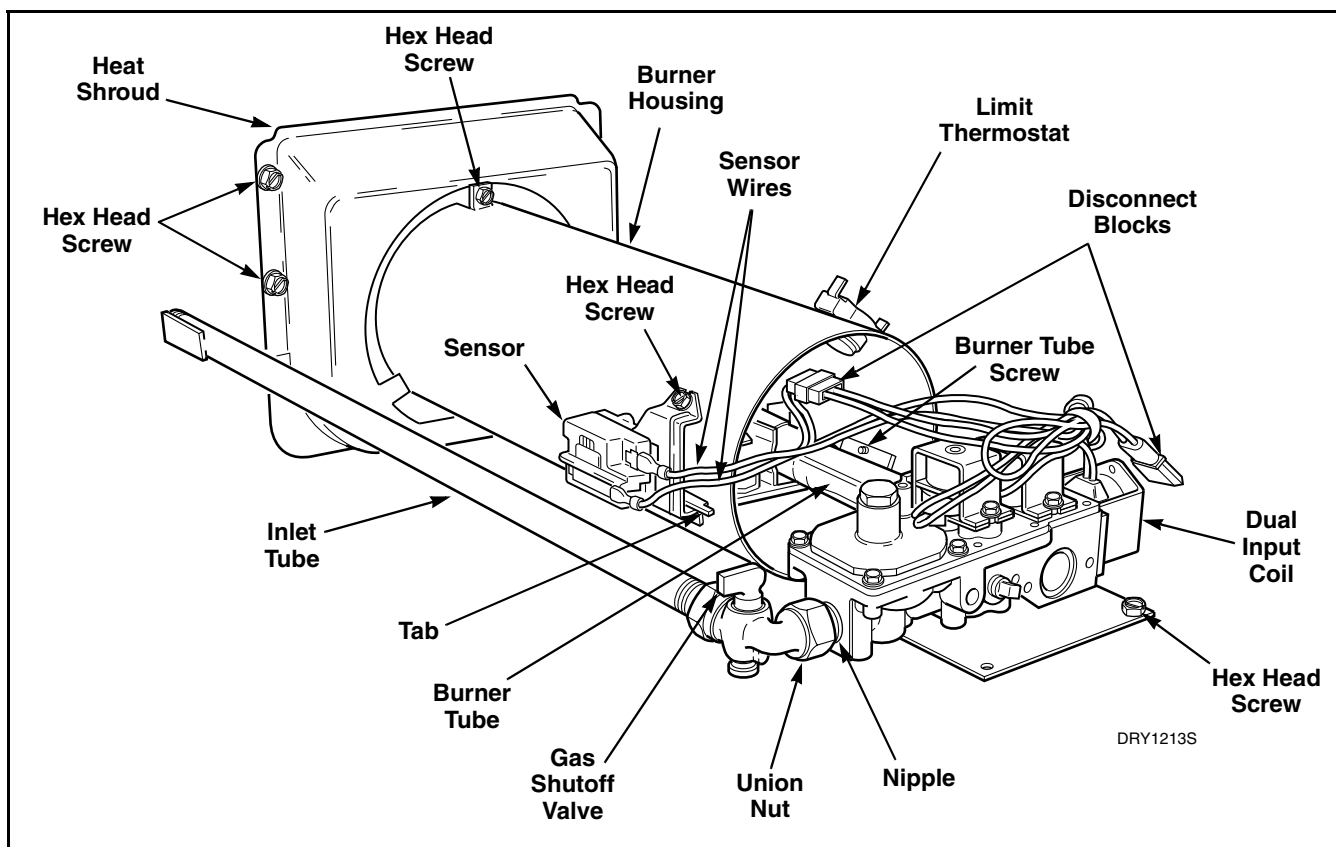

Figure 12
- (3) Close gas shut-off valve and disconnect wires from sensor, at quick disconnect blocks. Refer to *Figure 12*.
- (4) Loosen union nut between gas shutoff valve and nipple connector to gas valve. Unthread nut from nipple completely. Refer to *Figure 12*.
- (5) Remove screws holding valve and bracket to base. Refer to *Figure 12*.
- (6) Lift gas valve and mounting bracket from base and carefully remove through access door opening.
b. Burner Tube and Igniter – Refer to Figure 12
- (1) Remove screw from right side of burner housing holding burner tube in place. Refer to Figure 12.
- (2) Gently move burner tube toward rear of dryer to disengage tab from slot on left side of burner housing. Refer to Figure 12.
- (3) Carefully rotate burner tube and igniter **counterclockwise** so tab is at 8 o'clock position.
- (4) Move air shutter end of burner tube slightly to right and **CAREFULLY** remove burner tube and igniter assembly.
d. **Sensor** – Refer to *Figure 12*
- (3) Remove wires from sensor terminals.
- (4) Remove screw holding sensor to burner housing.
e. **Limit Thermostat** – Refer to *Figure 12*
Refer to *Figure 12*